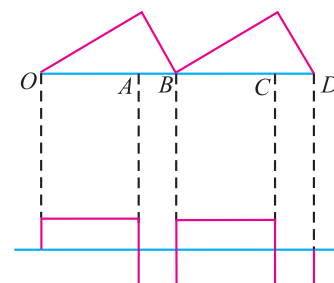

Fig. 18.20
**(ii) When input is a triangular wave.** When the input fed to a differentiating circuit is a triangular wave, the output will be a rectangular wave as shown in Fig. 18.20. During the period  $OA$